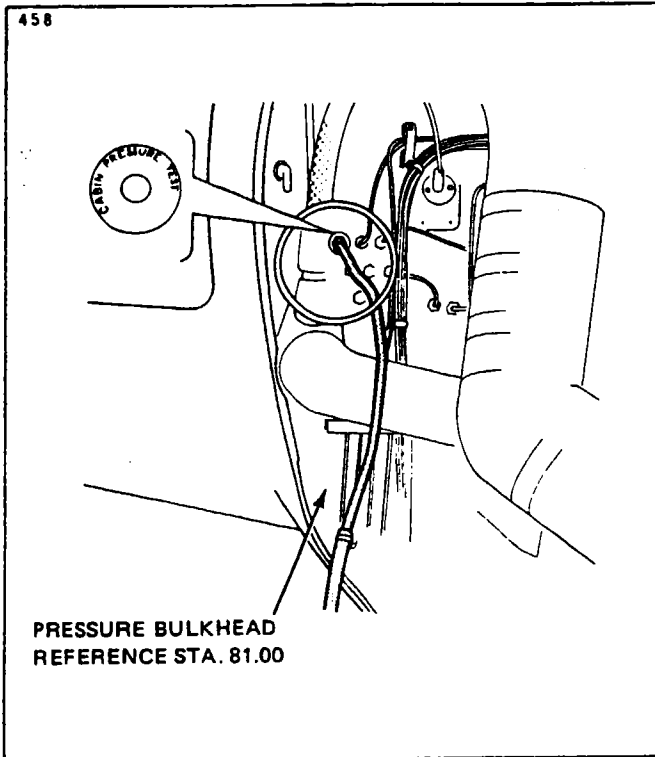

Figure 13-34e. Cabin Reference Hookup
3. Remove the protective plug from the fitting identified by the placard stating "Cabin Pressure Test" located on the forward pressure bulkhead (station 81). Connect the cabin reference line from the test unit to the fitting. (Refer to Figure 13-34e.)